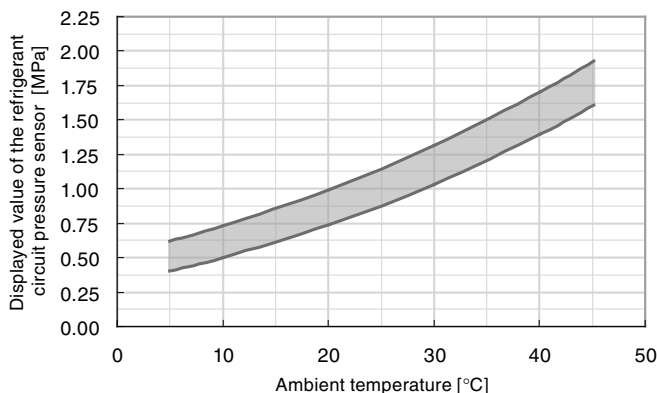

Fig. 4-14 Ambient temperature and refrigerant circuit pressure
- (1) Leave the Thermo-Chiller not operating for 24 hours to make the ambient temperature and the temperature inside the Thermo-Chiller the same.
- (2) Check the ambient temperature.
- (3) Check the “Ph: Refrigerant circuit pressure on the high pressure side” value in the “Check Monitor Menu”.
- (4) Check if the value at the cross point of the ambient temperature and the “Ph: Refrigerant circuit pressure on the high pressure side” value is within the range (the shaded part) in Fig. 4-14. If the cross point is within the range, it means that the pressure sensor is operating correctly.
- (3) Check “PL: Refrigerant circuit pressure on the low pressure side” value in the “Check Monitor Menu”.
- (4) Check if the value at the cross point of the ambient temperature and the “PL: Refrigerant circuit pressure on the low pressure side” value is within the range (the shaded part) in Fig. 4-14. If the cross point is within the range, it means that the pressure sensor is operating correctly.